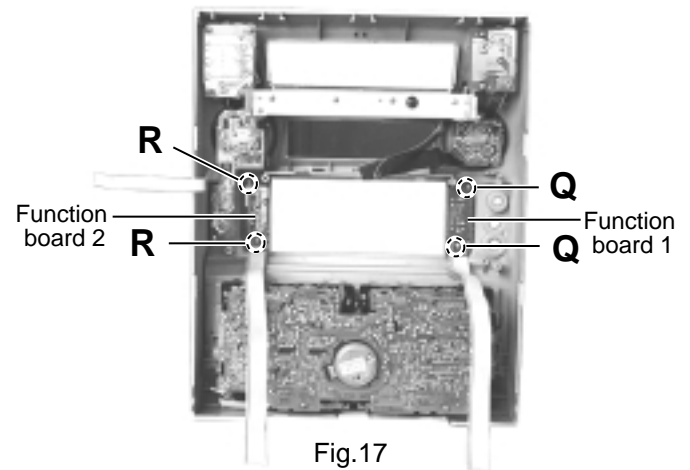

Fig.17
■ Removing the boards in the front panel assembly (See Fig.17 and 18)
— Function board1 (See Fig.17)—
— Function board2 (See Fig.17)—